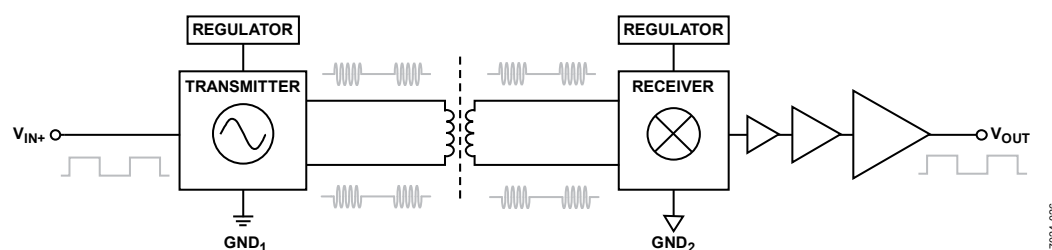

Figure 26. Operational Block Diagram of OOK Encoding
*i*Coupler chip scale transformer coils separated by layers of polyimide isolation. The ADuM4122 uses positive logic on/off keying (OOK) encoding, in which a high signal is transmitted by the presence of the carrier frequency across the *i*Coupler chip scale transformer coils. Positive logic encoding ensures that a low signal is seen on the output when the input side of the gate driver is unpowered. A low state is the most common safe state in enhancement mode power devices and can drive in situations where shoot-through conditions are present. The architecture of the ADuM4122 is designed for high CMTI and high immunity to electrical noise and magnetic interference. Radiated emissions are minimized with a spread spectrum OOK carrier and differential coil layout. Figure 26 shows the encoding used by the ADuM4122.